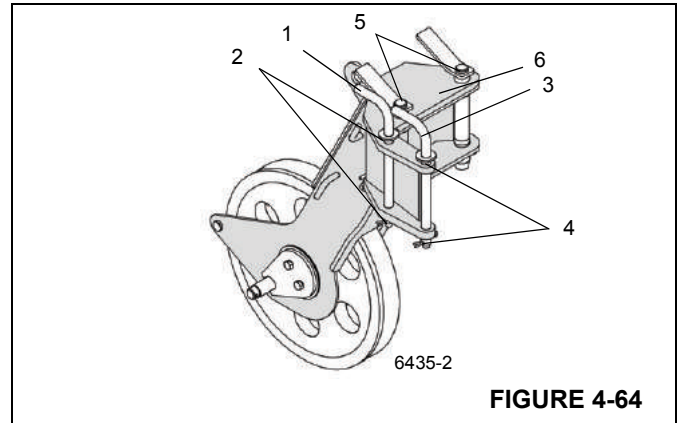

FIGURE 4-64
- Insert the two thin pins (1) and (3) into the bearing points (2) and (4) on the auxiliary single-sheave boom nose Figure 4-64.
- Insert the two pins (5) into the mounting brackets (6) in front on the auxiliary single-sheave boom nose.